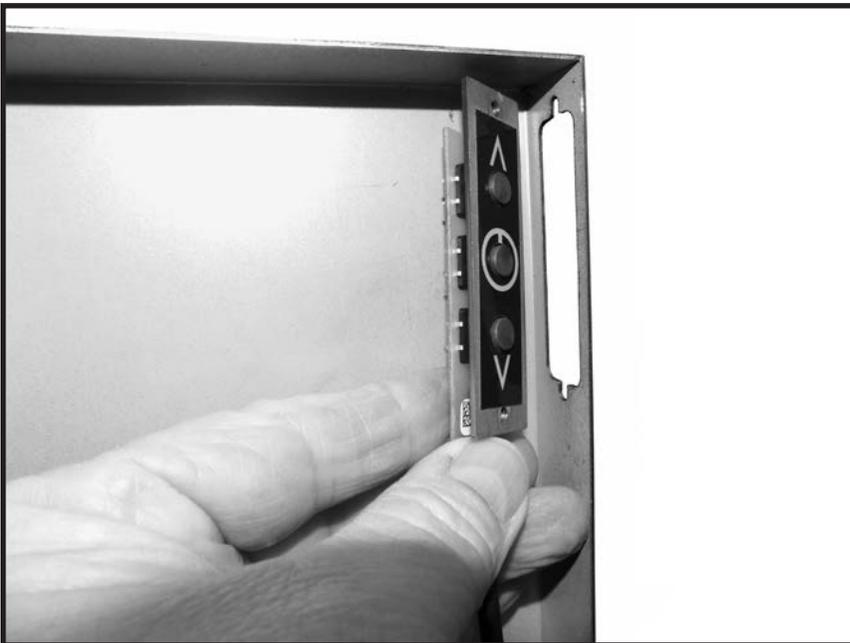

Figure 93: Positioning the switch behind the backing plate opening slot.
2. Position the ON/OFF switch against the open slot on the surround backing plate. Be sure to orient the switch as shown in (Figure 93).